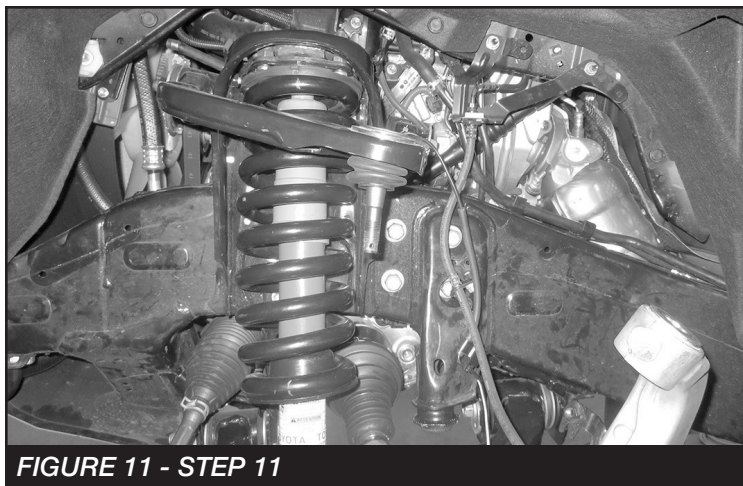

FIGURE 11 - STEP 11
11. Install the strut into the vehicle using the factory lower hardware and the supplied 3/8" nuts and washers. Torque the lower hardware to 148 ft-lbs. and the upper to 40 ft-lbs. **SEE FIGURE 11**